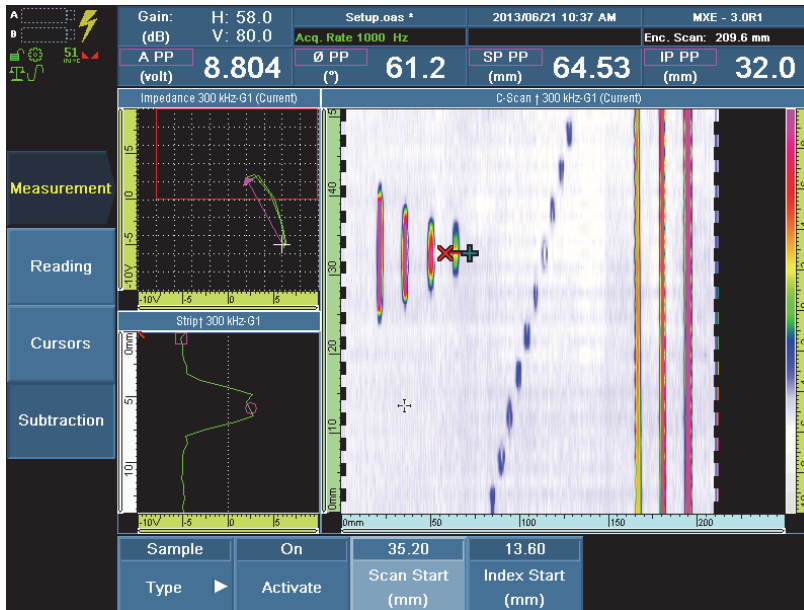

Figure 12-3 Point subtraction cursor
4. Select **Activate = On**, and then press the Accept key to enable the cursor. Selecting **Activate = Off** will disable the cursor. (see Figure 12-3 on page 230)